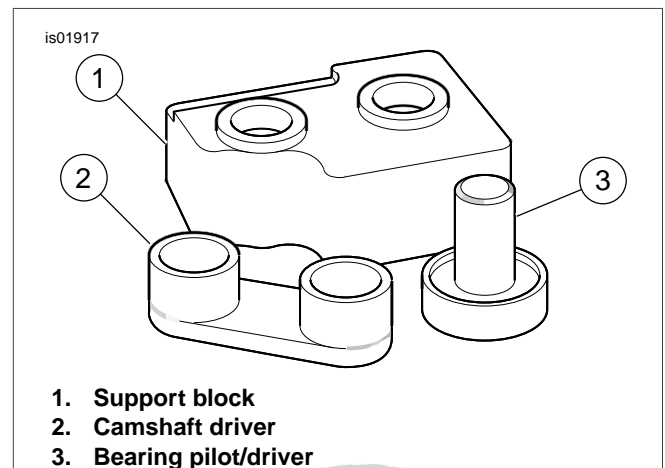
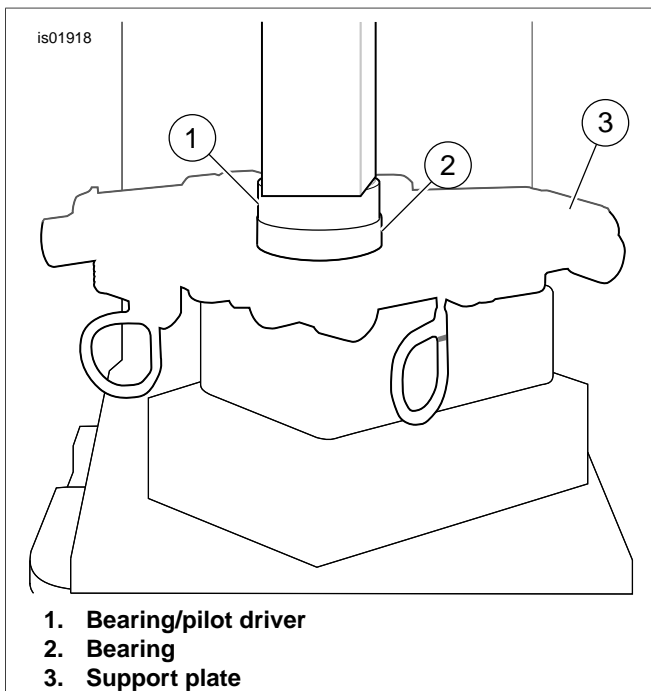

Figure 3. Camshaft and Camshaft Bearing Remover/Installer
Figure 4. Press Bearings into Cam Support Plate
- a. See Figure 3. Get the SCREAMIN' EAGLE CAM-SHAFT/ CAMSHAFT BEARING REMOVER/ INSTALLER (Part No. 94085-09).
- b. With the secondary cam chain side facing up, place the cam support plate on the support block (1) so that the outer races of the bearings are properly supported. Note that one corner of the support block is contoured to accommodate the chain guide blocks cast into the front of the support plate.
- c. Center the new bearing over the bearing bore with the lettered side up. Slide the pilot shaft of the bearing driver (3) through the bearing into the hole of the support block.
- d. See Figure 4. Center the bearing driver (1) under the ram of the arbor press. Press on the driver until bearing (2) makes firm contact with the counterbore in the cam support plate (3).
11. Place the cup of the camshaft driver (Figure 3, Item 2) over the end of the **front camshaft only**.